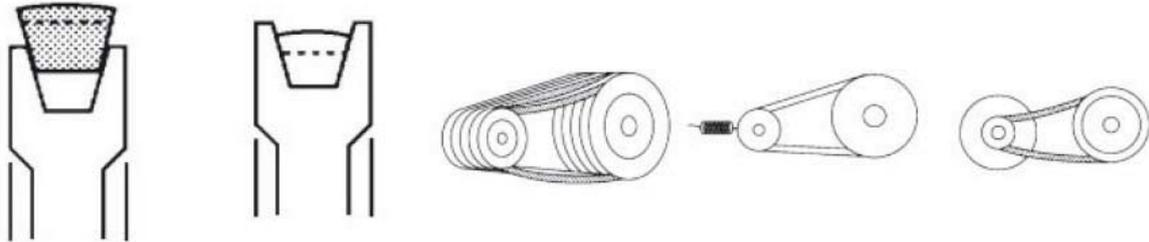
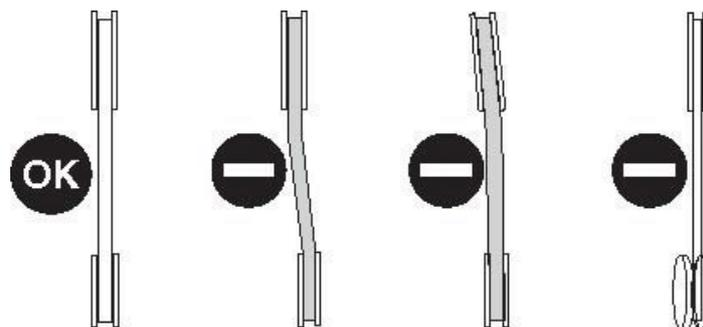

Figure 130: Unfavourable operating conditions (1)
Figure 133: Unfavourable operating conditions (4)
The V-belt drive is a reliable, low-maintenance component provided that unfavorable working conditions as shown in **Figure 130** up to **Figure 133** which may reduce durability and result in reduced efficiency. The unfavorable conditions include high temperatures and inadequate filtered air and thus formation of deposits.
- Belt contact the groove bottom / unequal set of belt / tension is too high or too low – **Figure 130**
- Alignment / offset wheels / non-parallel plates / discs rotated to each other – **Figure 133**